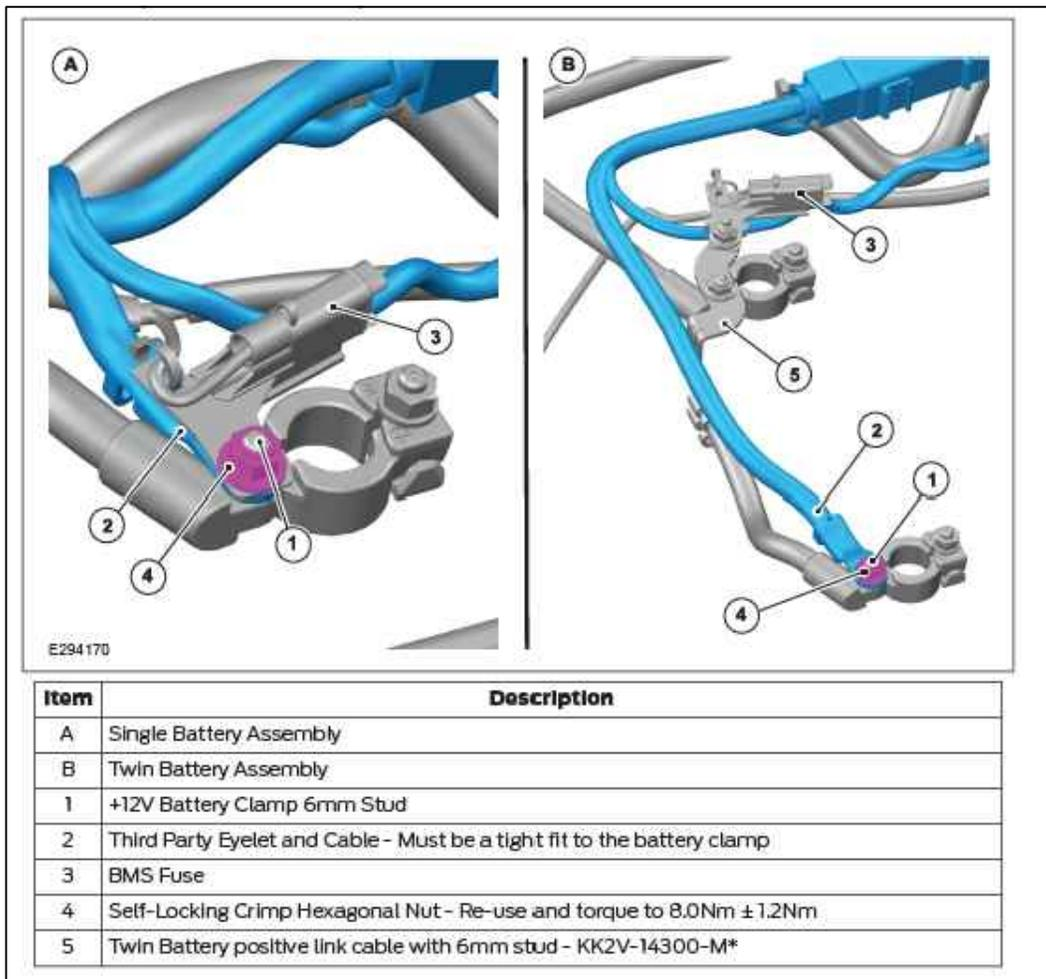

Figure 20: Battery diagram from 2020 Ford Transit Body and Equipment Mounting Manual (BEMM).
- 16. **Connect** the positive(+) lead to the M6 stud on the positive battery clamp. Reuse the M6 lock nut, when possible (Figure 20).